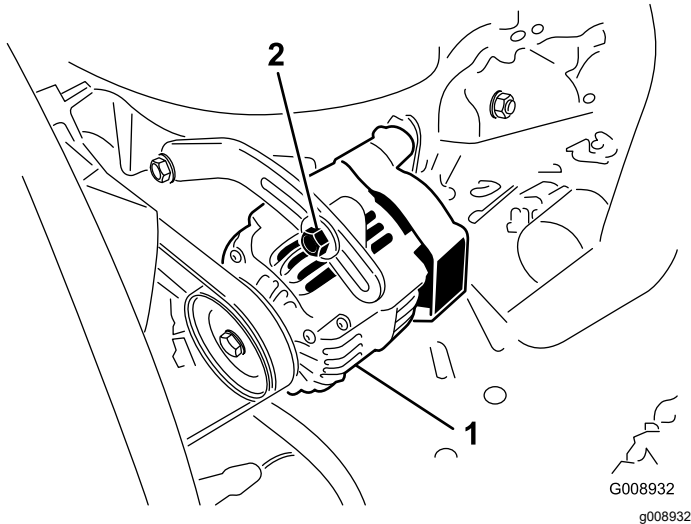

Figure 65
2. If the deflection is not 10 mm (3/8 inch), loosen the alternator mounting bolts (Figure 65).